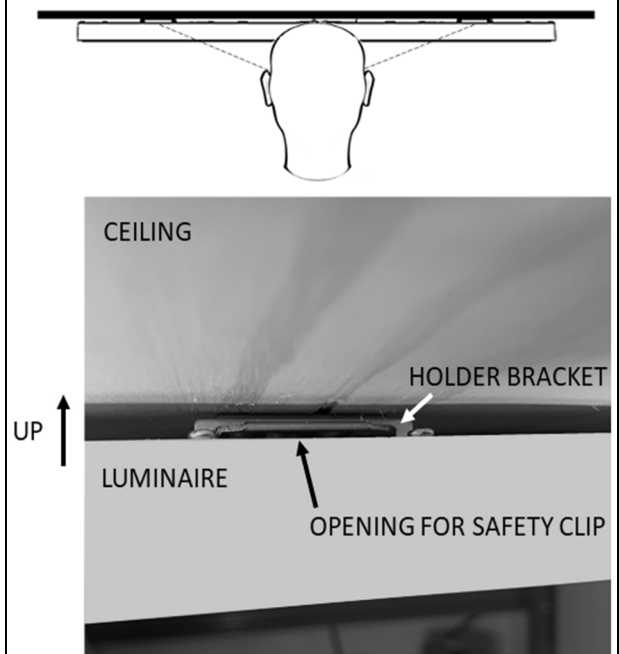

Figure 2.
- b. On square luminaires (2'x2'), the openings are on opposite sides of the luminaire, toward each end. You may have to stand back to look at each side, as shown in the top drawing in Figure 2.
Each opening looks like the bottom photo in Figure 2.